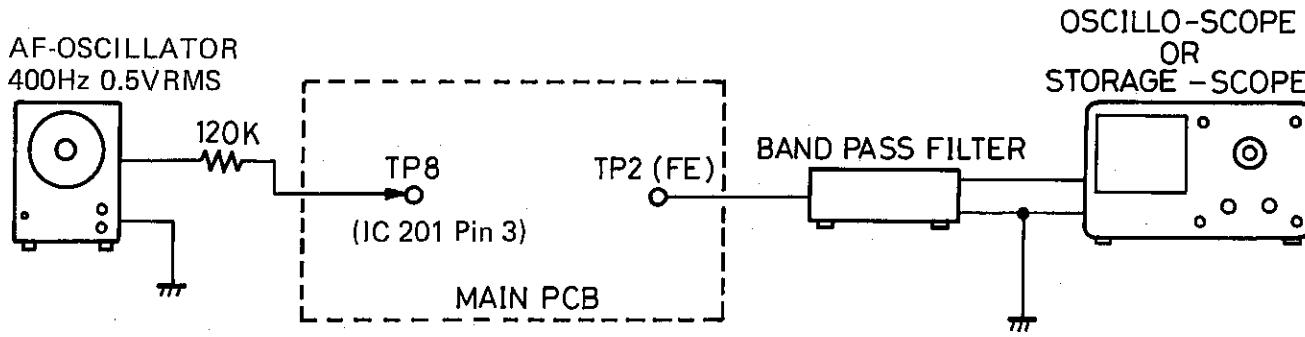

Figure 15
- Connect the storage scope to TP2 (F.E) by the Band pass filter (see Figure 15).